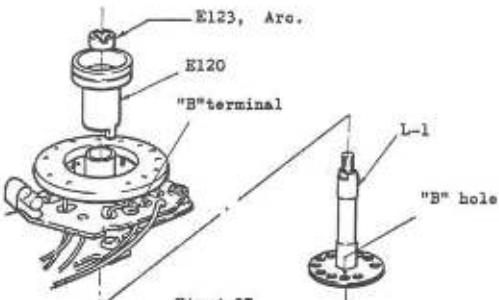

Fig. 4-37
- 2 Coincide "B" click hole with the click ball. The location of "B" click hole is shown in Fig. 4-37.